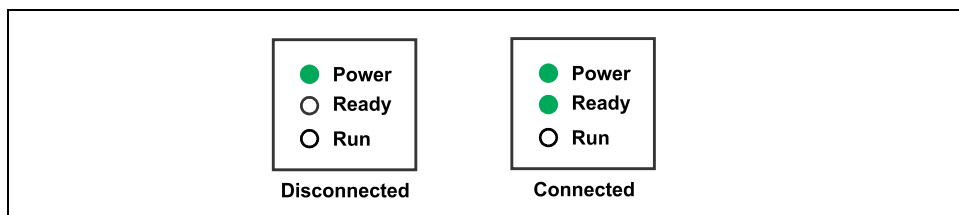

Figure 4-3. Dionex Easion LEDs: Connected and Disconnected States
1. While observing the Dionex Easion front panel LEDs, click the **Disconnect** button on the Chromeleon ePanel. Verify that only the **Power** LED is on (see Figure 4-3).
2. While observing the Dionex Easion front panel LEDs, click the **Connect** button on the Chromeleon ePanel. Verify that both the **Power** and **Ready** LEDs are on (see Figure 4-3).